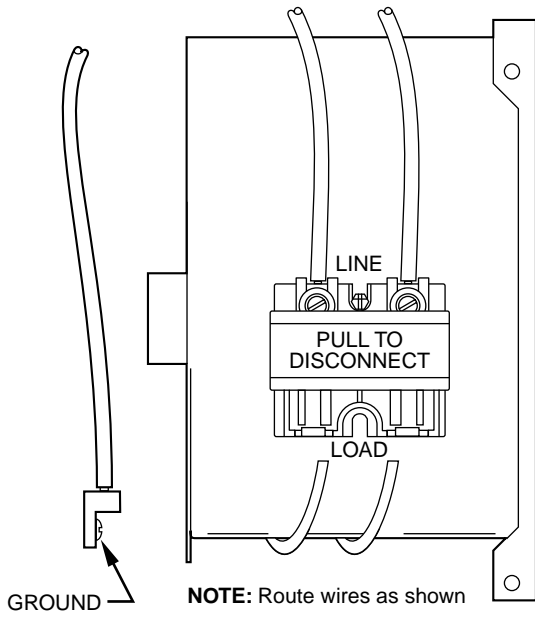

Fig. 2—Wiring Connections
7. Attach load and line wires to disconnect. (See Fig. 2.) Insert wires into wire connectors. Tighten lugs on line side. Connect ground wire to unit ground lug.